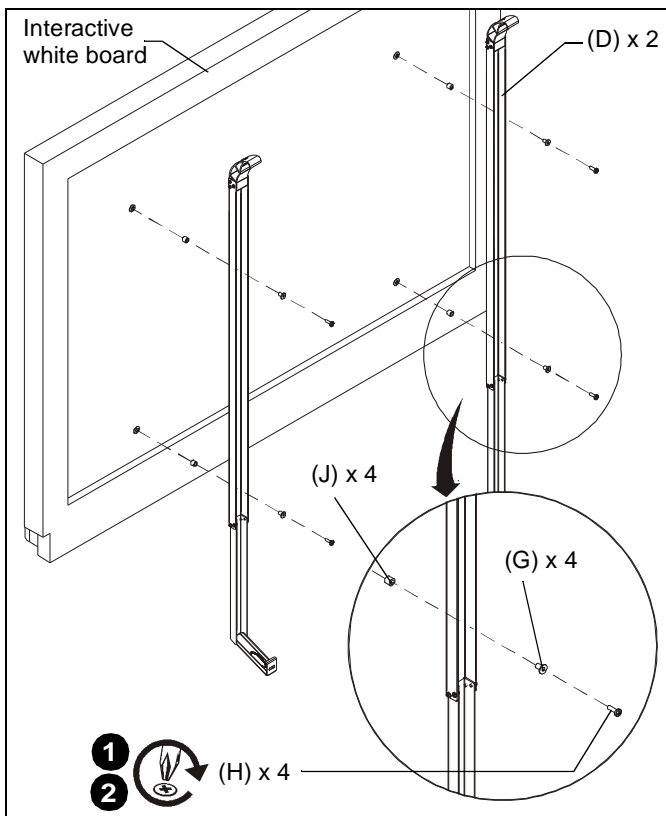

Figure 7
1. Attach upright assembly (D) to back of white board using four 1/4-20 x 1" Phillips pan head screws (H), four isolation washers (G) and four .500"x.320"x.425" spacers (J). (See Figure 7)
2. Repeat for second upright assembly. (See Figure 7)